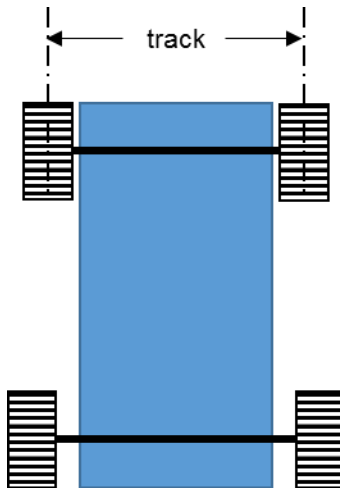

Figure 1. Top-view of go-kart showing track measurement.
- Minimum track (center to center distance between the tires, Figure 1) is 0.8m, (31 in).